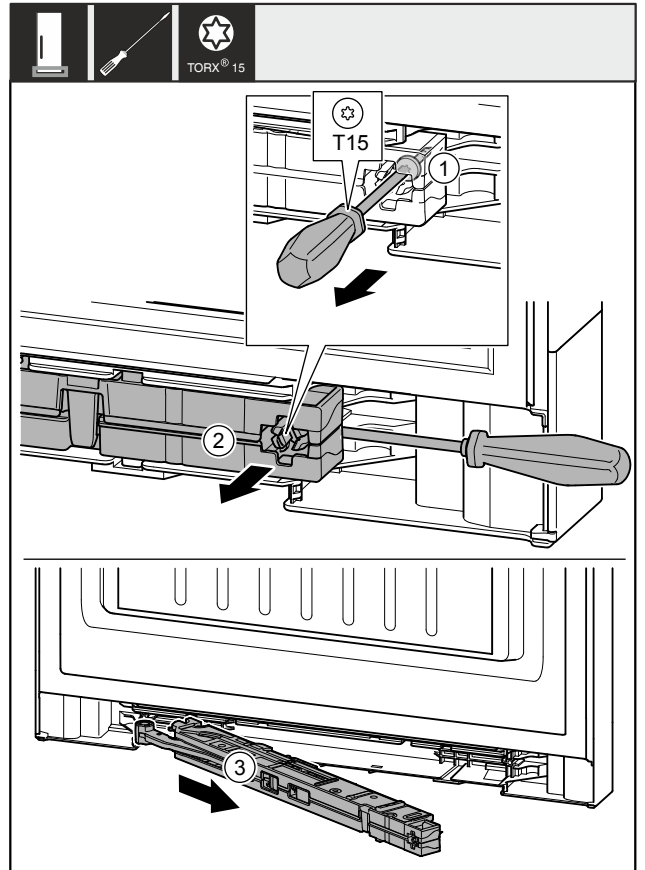

Fig. 12
- ▶ Use screwdriver to loosen the screw Fig. 12 (1) on the closing damper unit by approx. 14 mm.
- ▶ Lever the closing damper unit Fig. 12 (2) forwards on the handle side using a screwdriver.
- ▶ Pull out the closing damper unit Fig. 12 (3).